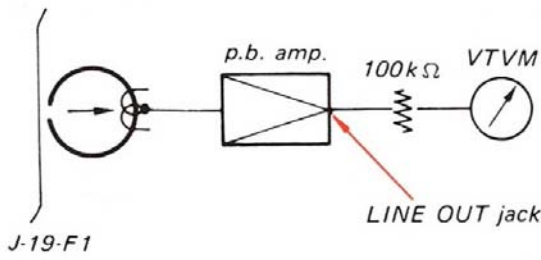

Fig. 3-2-8. Test setup for the items 4, 5 and 6
- Step 2. Thread the SONY alignment tape J-19-F1 and play back the 2nd tone (400 Hz). (See Fig. 3-2-8.)